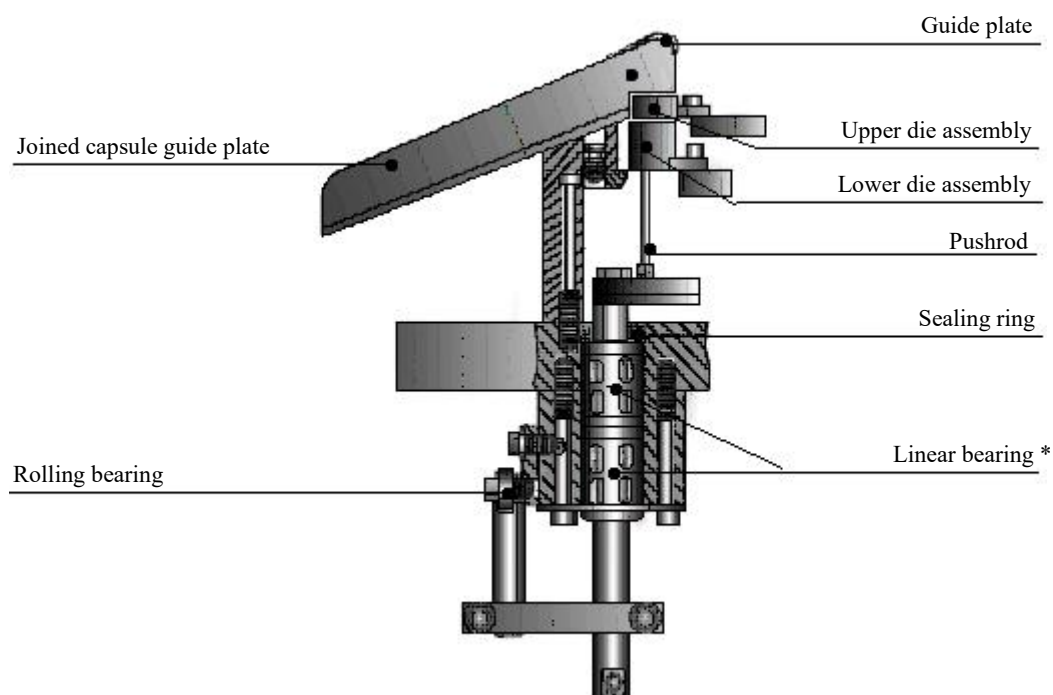

Fig. 28 Leading-out Unit for Joined Capsule
**5.2.11 Adjustment of leading-out unit for finished product (refer to Fig. 28, 29)**